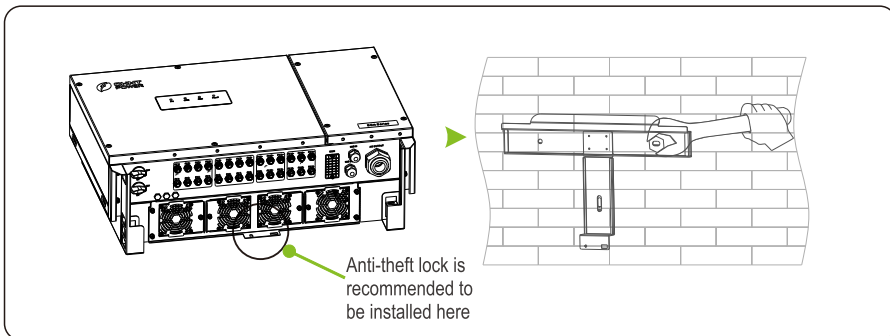

Figure 4.9 Mounting the inverter
**Step 2** Install the rear panel on the wall using M12 expansion screw after put on the flat washer, spring washer and nut respectively and the required torque is 42N.m. Mount the inverter on the rear panel and keep them aligned with each other. After that, tighten the screw between the machine and the rear panel, as shown in Figure 4.9.